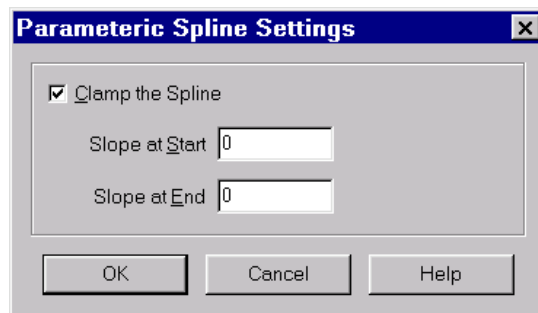

Figure 8-22. The Parametric Spline Settings dialog.
1. Click Curve Settings. The Parametric Spline Settings dialog appears, shown in Figure 8-22.